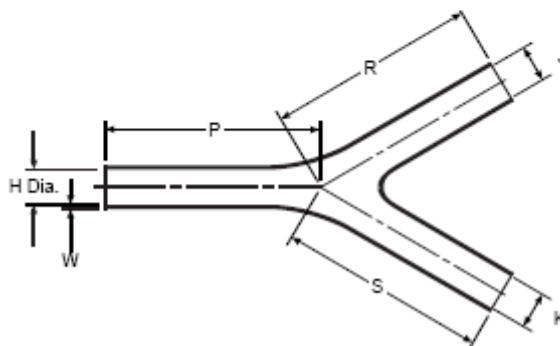

Figure 20. Transition Dimensions
30. **TRANSITION REPLACEMENT.** A transition with major damage can be covered with a new transition of the same size and material. Refer to Figure 20, Table 7 and Table 8 for information on transition size and type selection.